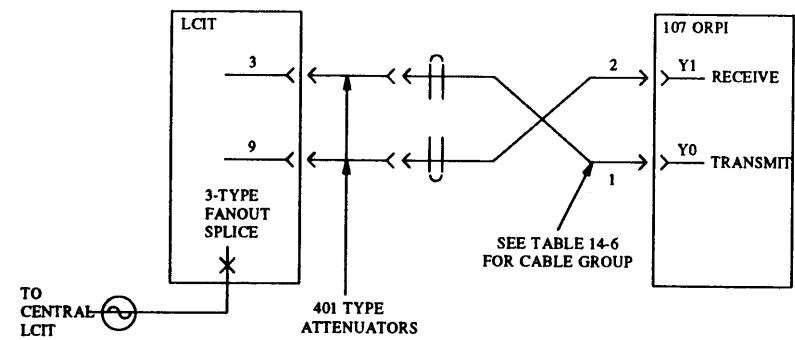

Figure 27-3. ORPI to Remote LCIT Connections
Use table 27-2 to determine the proper cable group. Make the connections between the LCIT and ORPI using the selected cable and figure 27-3. Cables with 50 micron diameter are coded blue(1) or white(2); 62.5 micron cables are gray and stamped with "1" or "2." DEFINITY Generic 2 installations will use the 3B/ST fanouts. Previously installed systems use 3B biconic fanouts, but they do not have to be replaced. For LCITs with biconic connectors, GRP465 must be used with GRP509.